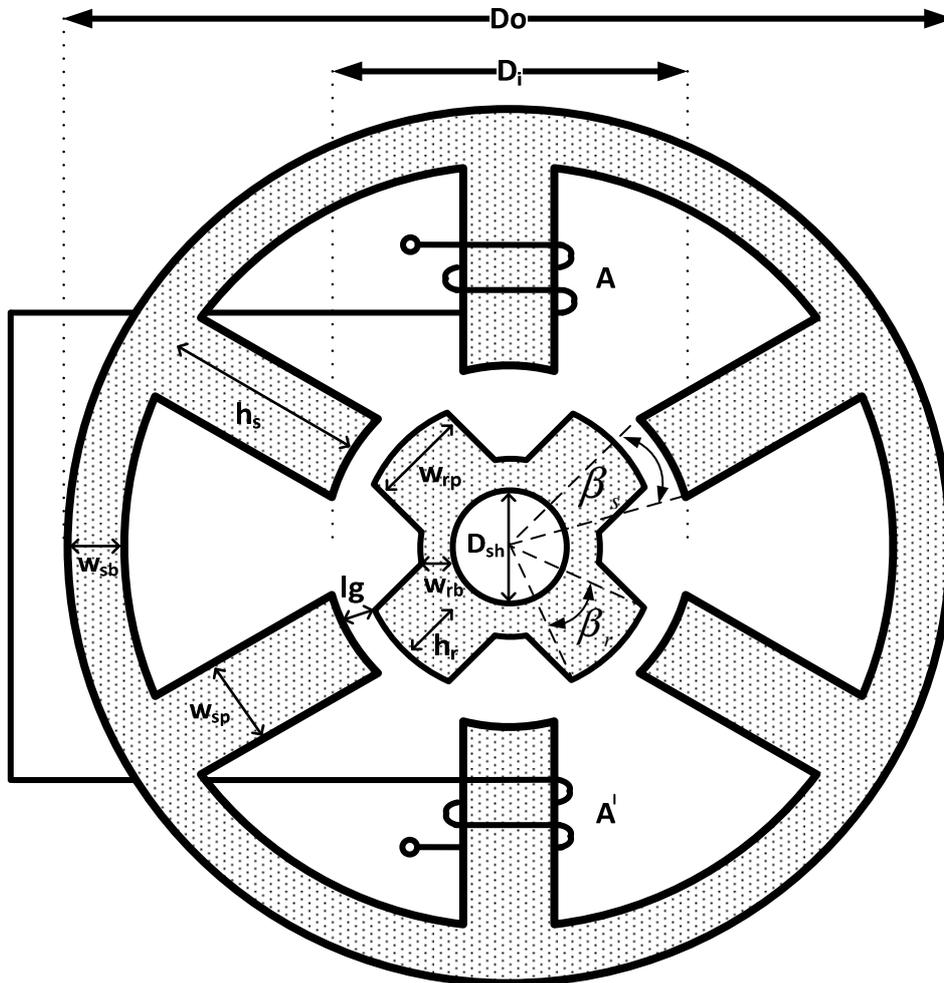

Figure 1: Cross section diagram of a SRM
5. A switched reluctance motor has six stator poles and four rotor poles, like the one in Figure 1. Each stator pole has 40° of arc width while each of the rotor poles has 10° of arc width. The supply current to the stator windings is 5A.